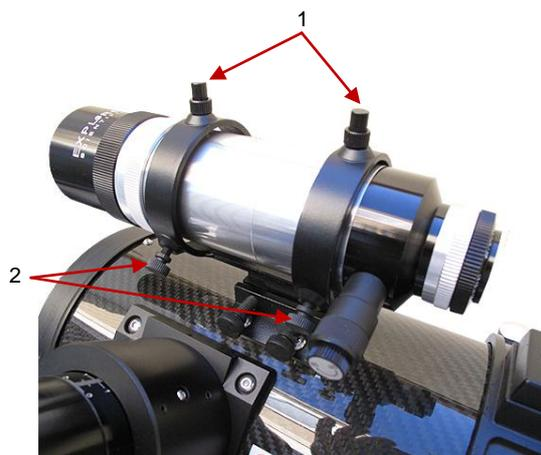

Fig. 4, Finder Scope Adjustment Screws
4. Look through the finder scope eyepiece and loosen or tighten, as appropriate, one or more of the finder scope collimation screws (**2, Fig. 4**) until the finder scope crosshairs are precisely centered on the object you previously centered in the telescope eyepiece.
NOTE: The two screws on the top of the finder scope (1, Fig. 4) are not adjustment screws. They are spring loaded used to hold the finder scope.